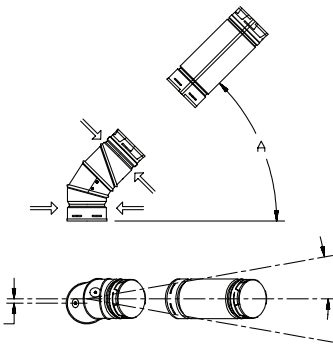

Figure 21
**4. 45° Offsets with 90° Elbows. Figure 21** shows a 90° Adjustable Elbow being utilized to accomplish a 45° offset. This Elbow is completely adjustable from 0° to 90°. Please note that the centers of the upper sections tend to displace by a slight amount, as they are rotated. Again, screws (not longer than 1/4") may be used to secure the joint. Wall Straps should also be utilized to enhance the stability of the vent system.